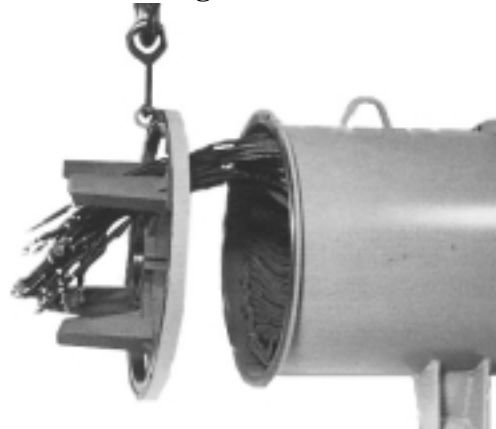

Figure 6-31
2. Remove the front-end bracket from the main stator assembly. (Figure 6-31.)